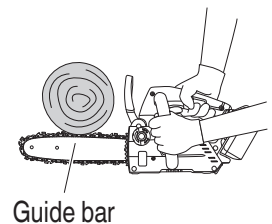

Fig. 27
- (5) When cutting into wood from the bottom, touch the upper part of the guide bar to the wood lightly. (**Fig. 27**)
- (6) As well as carefully studying the handling instructions, ensure practical instruction in the operation of the chain saw prior to use, or at least practice working with the chain saw by cutting lengths of round timber on a sawing trestle.
- (7) When cutting logs or timbers which are not supported, support them properly by immobilizing them during cutting using a sawing trestle or other proper method.